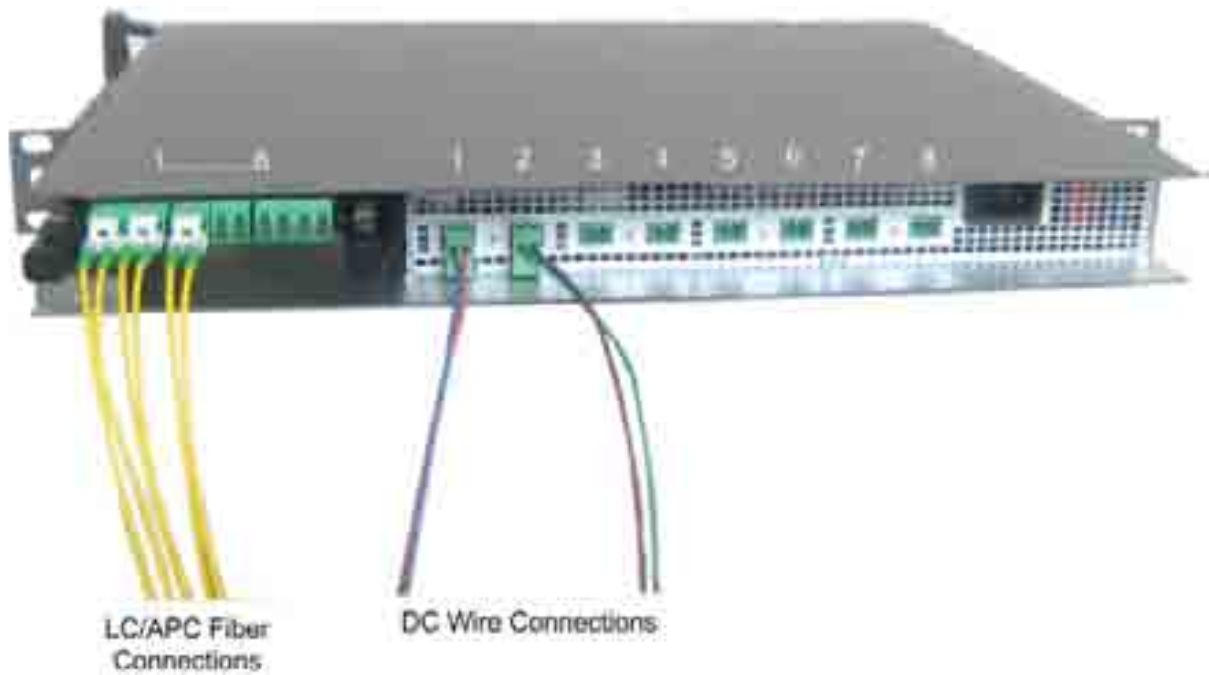

Figure 5-62. ICU Fiber and DC Connectors
1. Connect one side of the composite cable DC wiring to any of the ICU DC power connectors (1-8) on the front panel. See Figure 5-62.
2. Extract the Edge module (see Steps 1-4 of 5.2.1.6), remove the tip covers from the composite cable fiber pairs and connect to the Edge module LC/APC fiber connectors. See Figure 5-62.